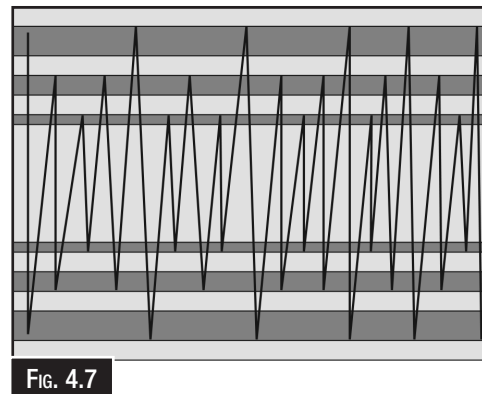

FIG. 4.7
4. Repeat Steps 1-3, as you move across the work piece, randomly alternating between outside, middle and inside lines. (Fig. 4.7)